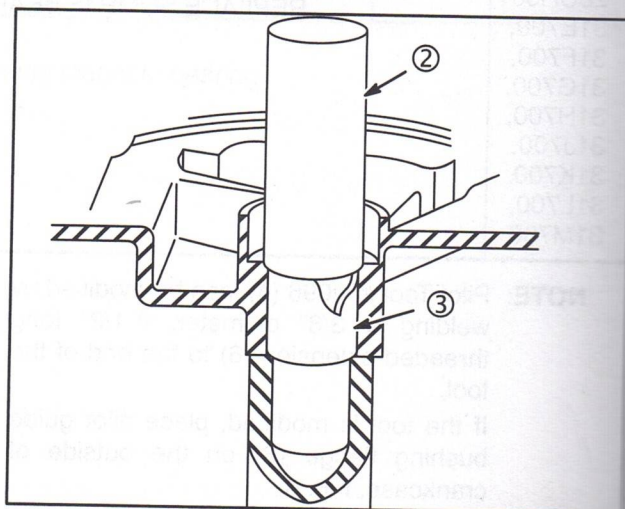

Fig. 9
2. Use a bushing driver (2) to press bearing (3) to dimension shown in Table No. 7 page 6 and Fig. 9. If no dimension is given for Model Series, press bushing until flush with seal surface. Measure from seal surface on magneto side.